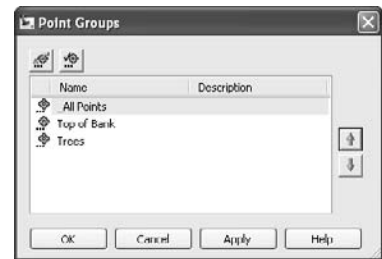

Figure 5.12
5. Use the up arrow to move the _All Points group to the top of the list that appears in the Point Groups dialog, as shown in Figure 5.12. Click OK. All of the points in the drawing become invisible.